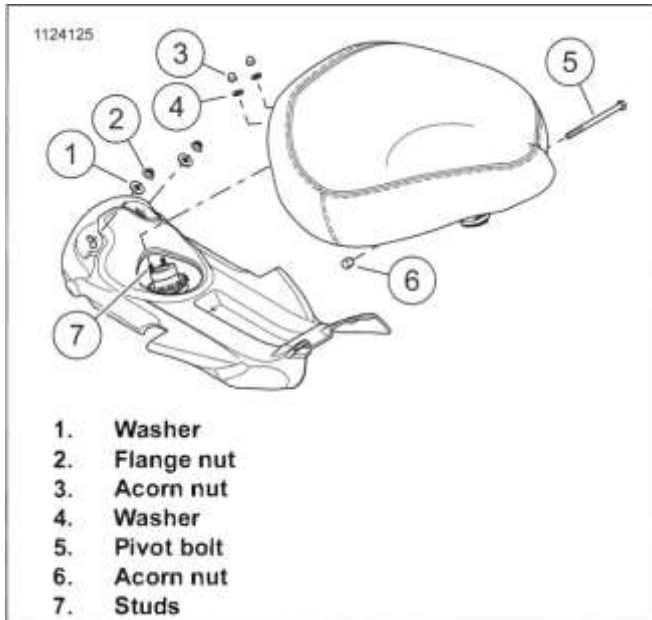

Figure 3-172. Seat Attachment
1. See Figure 3-172. Remove seat.
- a. Remove acorn nuts (4) and washers (3).
- b. Remove acorn nut (6).
- c. Remove pivot bolt (5). Remove seat.
- a. Remove flange nuts (2) and washers (1).
See Figure 3-172. Remove studs (7).
1. See Figure 3-172. If removed, install seat fairing, washers (1) and flange nuts (2). Tighten.